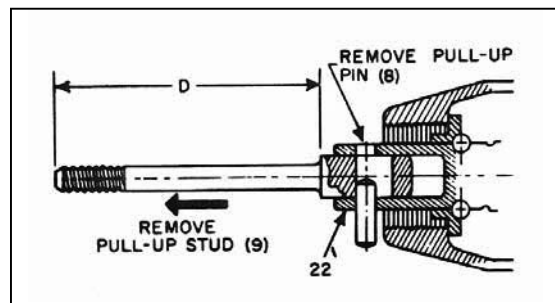

Figure 4A - Replacement of Pull-Up Stud
3. With air line connected to tool, depress trigger *completely* and release. Pull-up stud will move forward so that pull-up stud pin is accessible, as in figure 4A.
4. Remove pull-up stud pin (8,fig 4A). For 2 piece pull-up stud and coupling, measure dimension D (fig 4A) and remove damaged pull-up stud. Install new pull-up stud to dimension D measurement. Dimension D can be ignored for 1 piece pull-up studs.
5. Reinstall pull-up stud pin (8,fig 4A).
6. Grasp pull-up stud drive chuck (22,fig 4A) firmly with pliers, depress trigger *very slightly*. Pull-up stud drive chuck then will retract into Jackscrew housing.
8. Thread pull-up stud housing into jackscrew housing until distance C fig 4A and gage line are in same relative positions as previously noted.